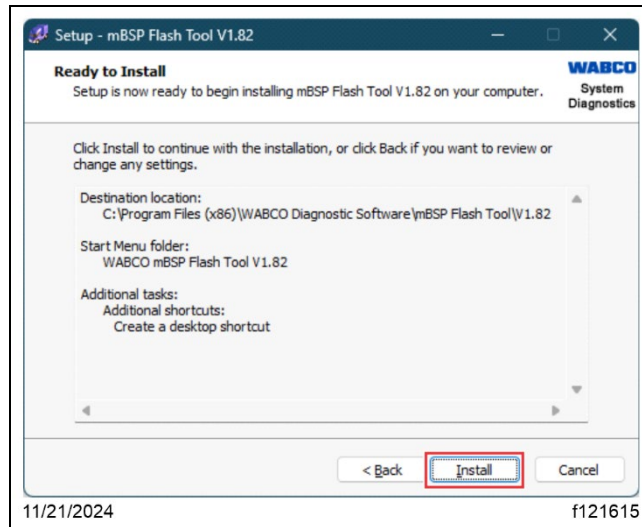

Fig. 39, Starting the Installation
7.11. On the 'Ready to Install' screen, select 'Install' to continue with the installation. See Fig. 39.